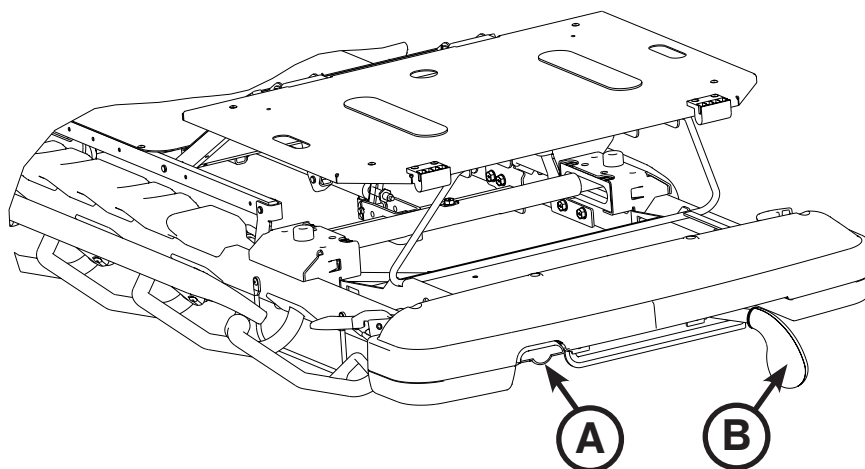

Figure 23: Gatch - Foot End
To raise the gatch, pump handle (B) repeatedly to the left until the gatch has reached the desired height (5.5"/14 cm minimum) as shown in Figure 23.
To lower the gatch, pull handle (A) until the gatch has reached the desired height (5.5"/14 cm minimum) as shown in Figure 23.